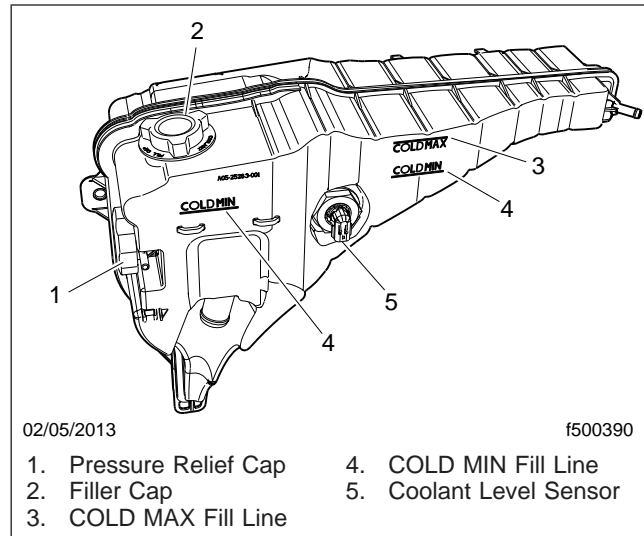

Fig. 21.6, Coolant Surge Tank
5. Check the engine coolant level in the radiator surge tank. See Fig. 21.6.